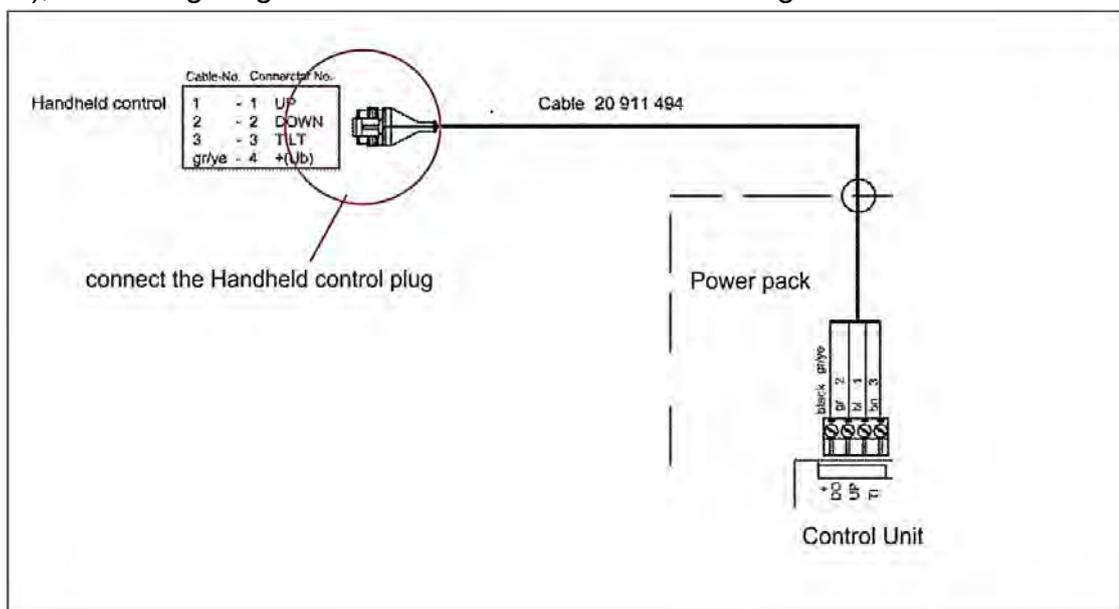

Figure 20
- Connect the Handheld control plug, with the one coming from the Control Unit (in Power pack), see wiring diagram cable No. 20 911 494 or see Fig. 20.